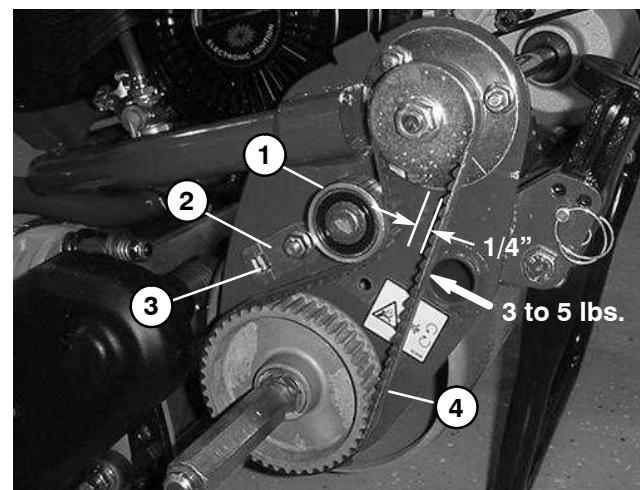

Figure 6
- B. Check belt tension by depressing belt at mid-span between the pulleys with 3 to 5 lbs (13 to 22 N) of force (Fig. 6). The belt should deflect 1/4 inch (6 mm).
- B. With a 3/8 inch drive torque wrench, pivot the idler pulley against the backside of the belt from 35 to 40 in-lb (40 to 46 kg-cm). **Do not over tension belt.** Hold idler assembly with the torque wrench and tighten idler bracket cap screw to lock adjustment (Fig. 6).